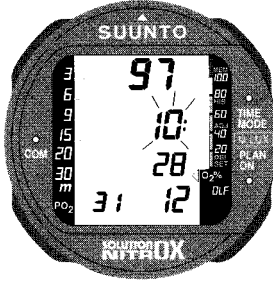

Fig. 4.18 TIME SETTING
1. Activate the Time Setting mode by connecting the TIME/MODE and COM contacts continuously to scroll through the menu. Release your fingers immediately when Set appears on the display. The Time Setting display will now be shown (Fig. 4.18). The hour display starts to blink immediately.